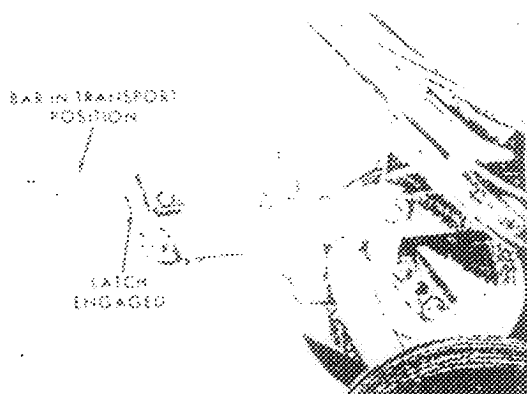

Fig. 1
1. Place the depth gauge bar in the transport position as shown in Fig. 1 and secure with the latch.